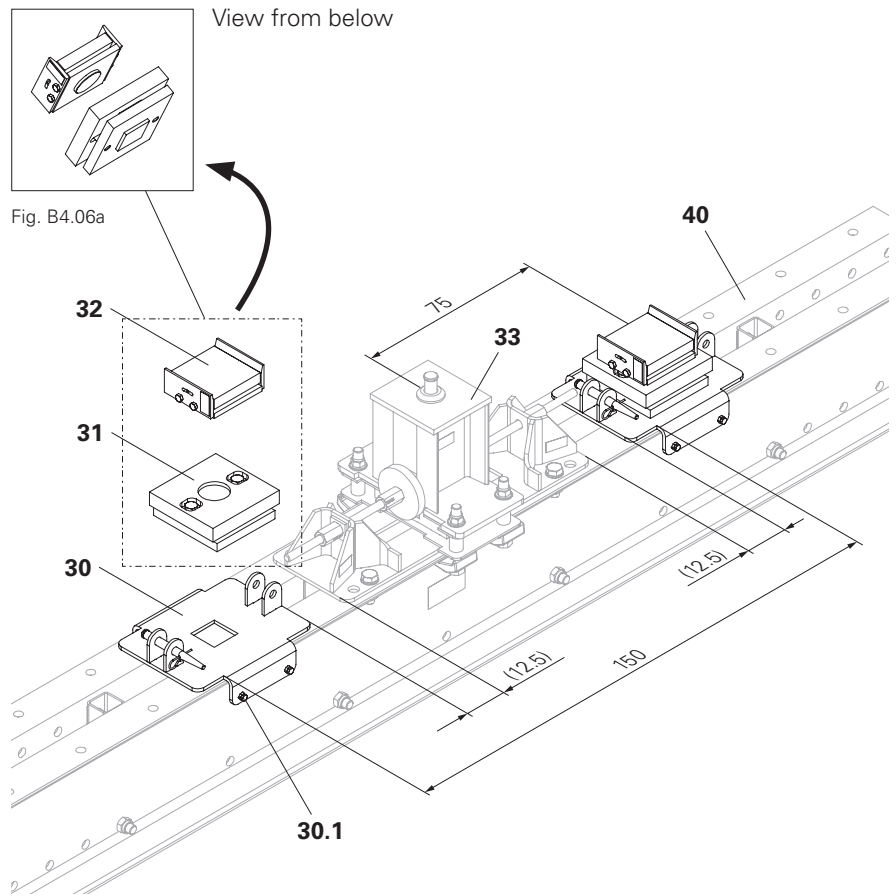

Fig. B4.06
1. Place the centring plate (30) on the main beam (40). The distance to the horizontal bearing (33) is 75 cm centre - centre.
3. Place the cross fall bearing (31) on the centring plate.
4. Position the longitudinal bearing (32) on the cross fall bearing.
- (Fig. B4.06)
- The spacing of both supports is 150 cm (Fig. B4.06).